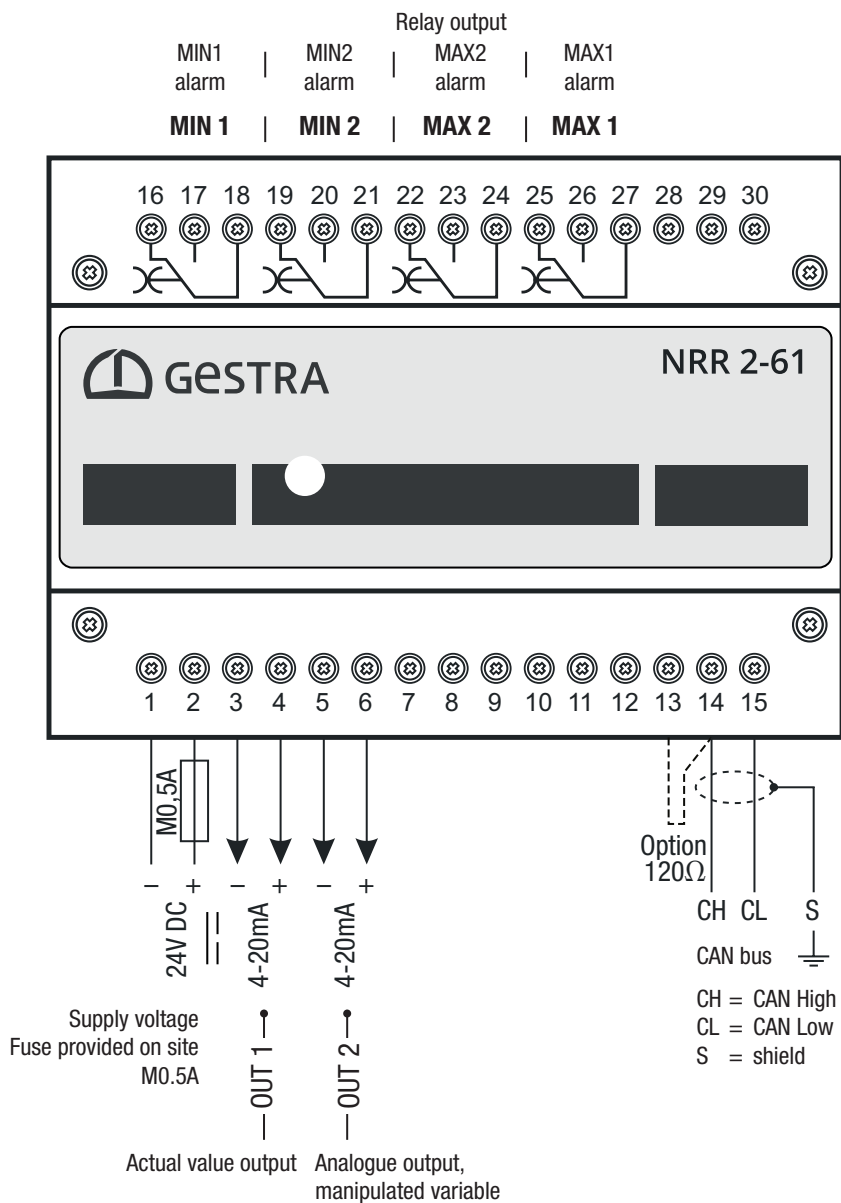
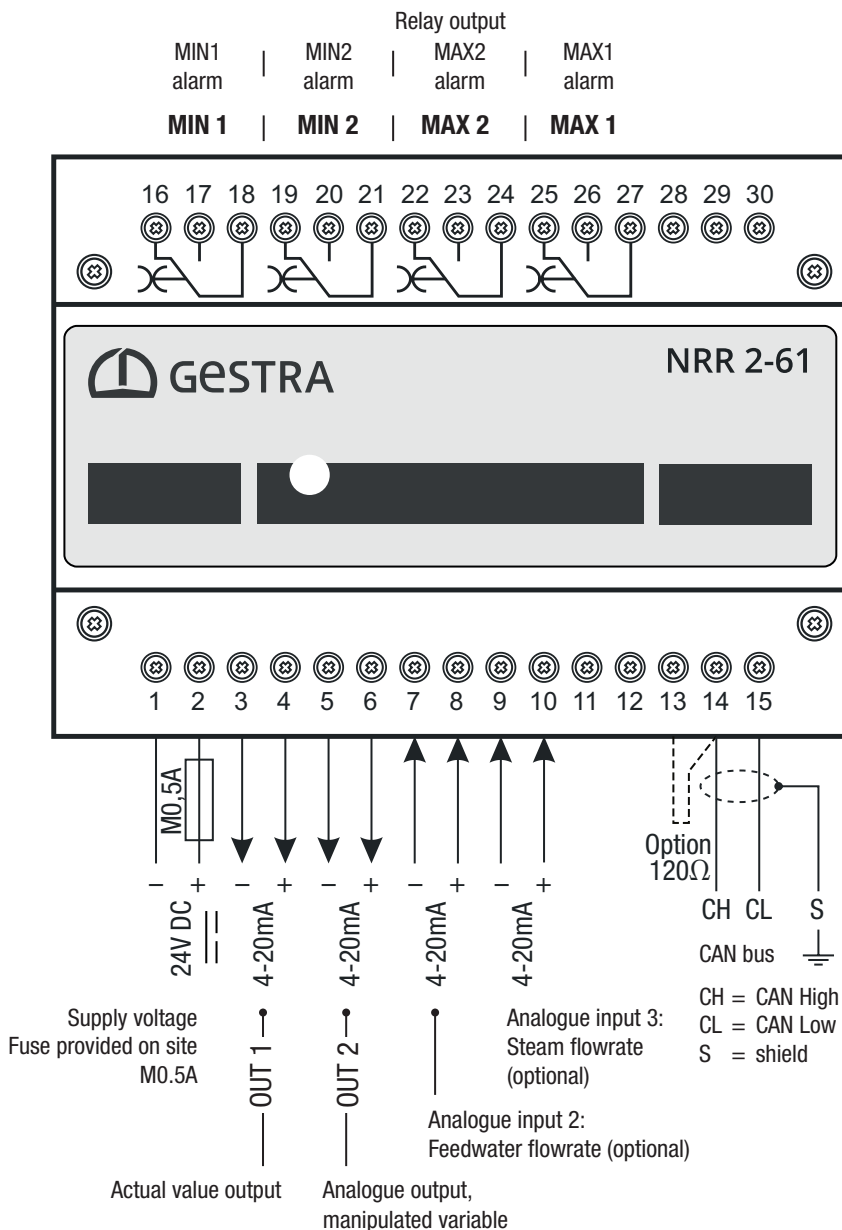

Fig. 6
Fig. 7
- Connect the level controller and all associated components as shown in the wiring diagrams Fig. 6/ Fig. 7 in this Manual.
- Connect the outputs as shown in wiring diagrams Fig. 6/ Fig. 7.